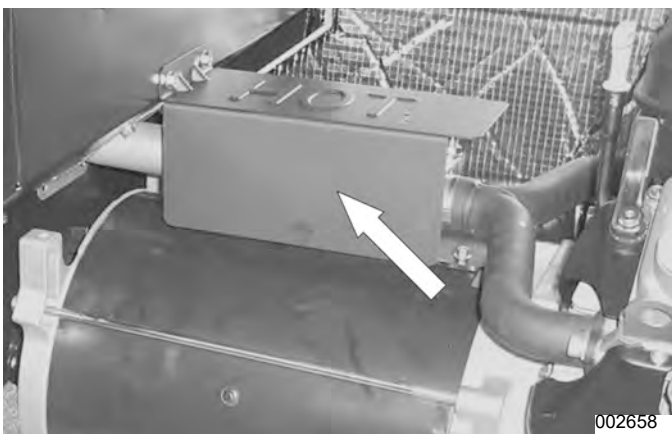

Figure 5-41.
3. **Remove Exhaust Flex Cover:** See Figure 5-41. Use a 10 mm socket to remove the two bolts from the exhaust flex pipe cover. Remove the cover.